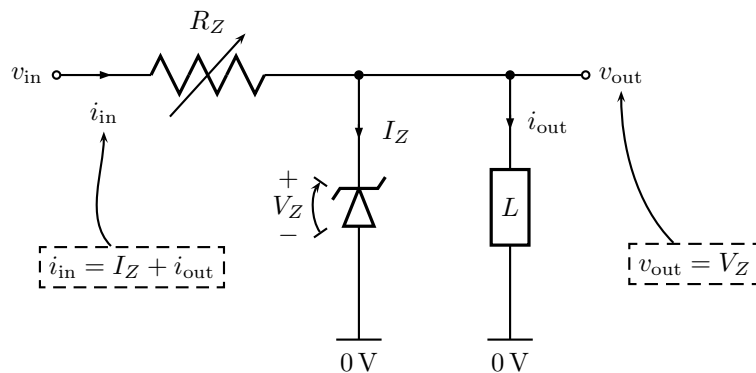

Figure 1.1: Zener diode shunt (i.e., parallel with load) voltage regulator with load L .
The circuit in Figure 1.1 maintains $\sim V_Z$ on its output by *reverse* biasing the Zener diode with $\sim I_Z$ current.
- Design (i.e., choose components for desired output) and build the regulator in Figure 1.1 from page 2.